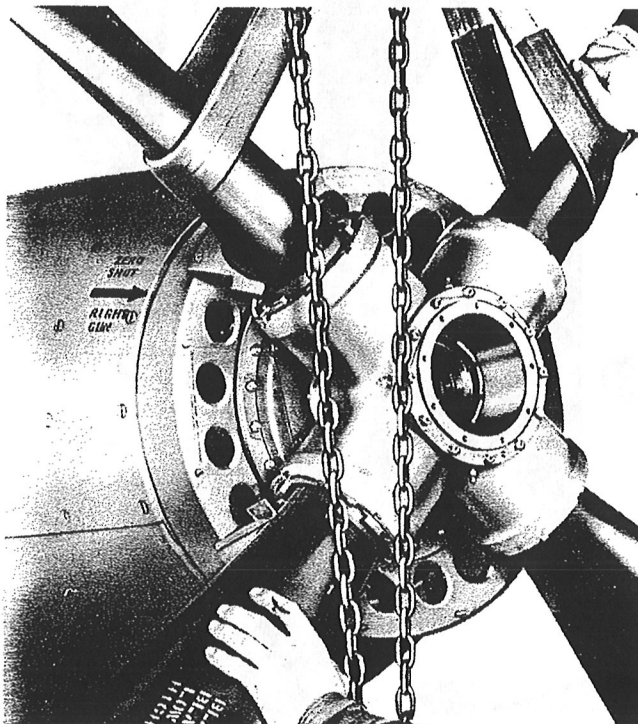

Figure 20—Installing the Propeller
- l. Using a hoist, align the propeller with the propeller shaft and guide it over the shaft, being careful not to damage the cone seal, threads or splines. (See figure 20.)